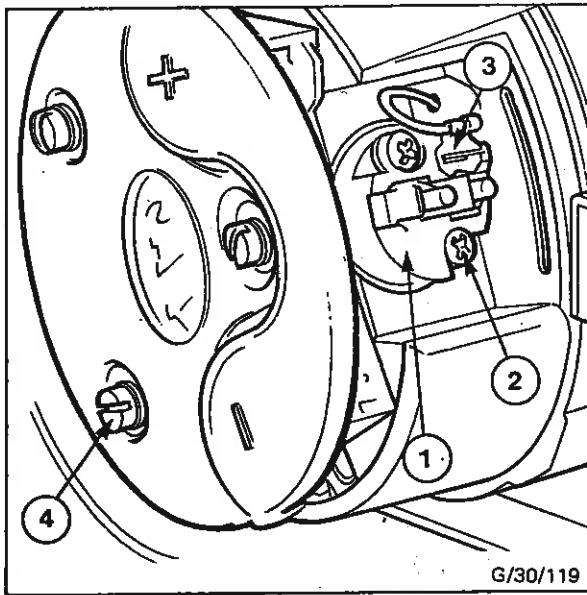

Fig. 80 - Replacing Brush Box and Baffle
10. Fit a new gasket (supplied in seal and gasket set) to the brush box moulding and assemble 'brush gear (1) to the slip-ring end shield. Correct positioning is ensured by the locating dowel. Secure with retaining screws (2) and plain and spring washers. Reconnect 'A' lead (3) to terminal post marked 'A', secure with crinkle washer, plain washer and terminal nut - see Fig. 80.